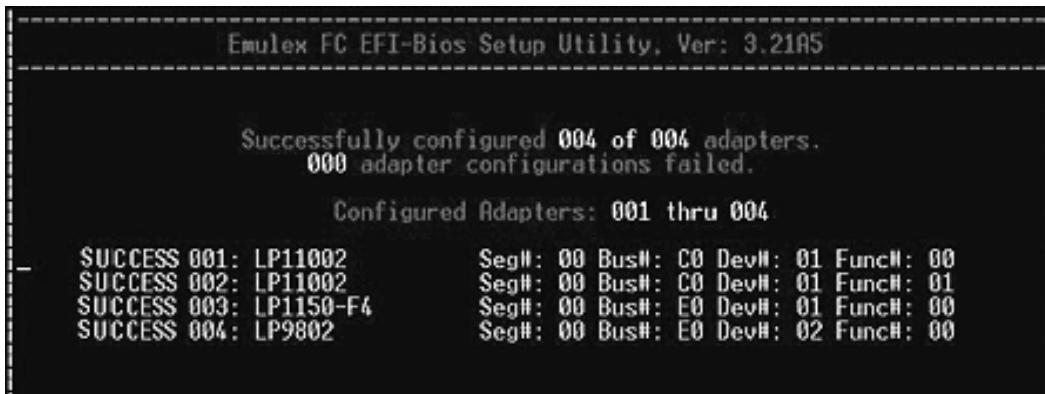

Figure 56: Successful Batch Configuration screen
- Press **<P>** to configure the selected adapters. If the adapters are configured successfully, a screen similar to Figure 56 is displayed.
5. Press <P> to configure the selected adapters. If the adapters are configured successfully, the screen shown in Figure 56 is displayed.